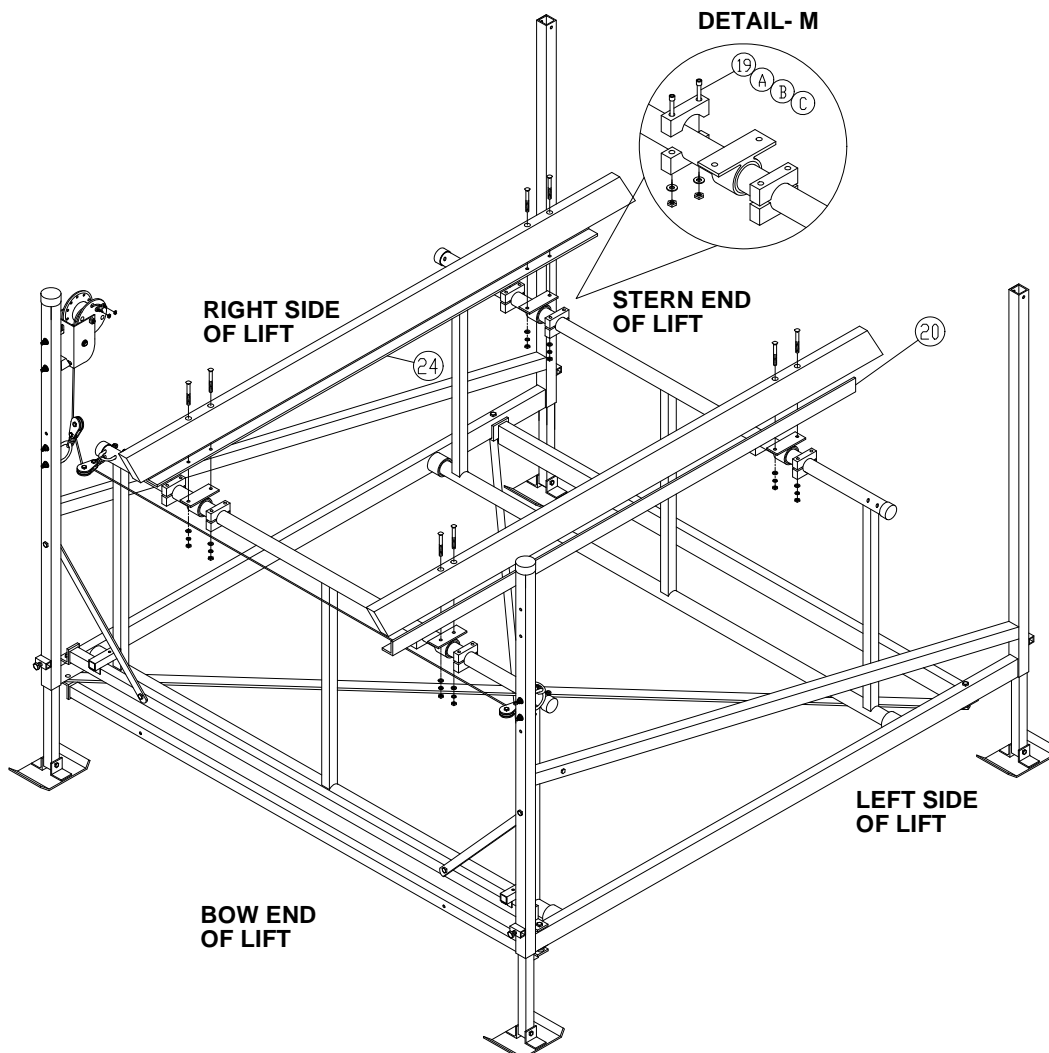

Figure 3-5.
1. Refer to **Figure 3-5**. Install the wire rope clamp, outside the drum flange as shown in **Detail I**. Do not tighten at this time.
2. Refer to **Figure 3-5**. Set distance of each pivot bunk mounting bracket a minimum of 10" from center of bow and stern lifting arm. Then mount a pair of half round clamps, approximately 2" away from each side of pivot bunk mounting bracket as shown in **Detail M**. When fastening the clamps together, use clamp with pressed in hex nuts as bottom clamp. Fine adjust bunks to fit the hull of your boat as needed.